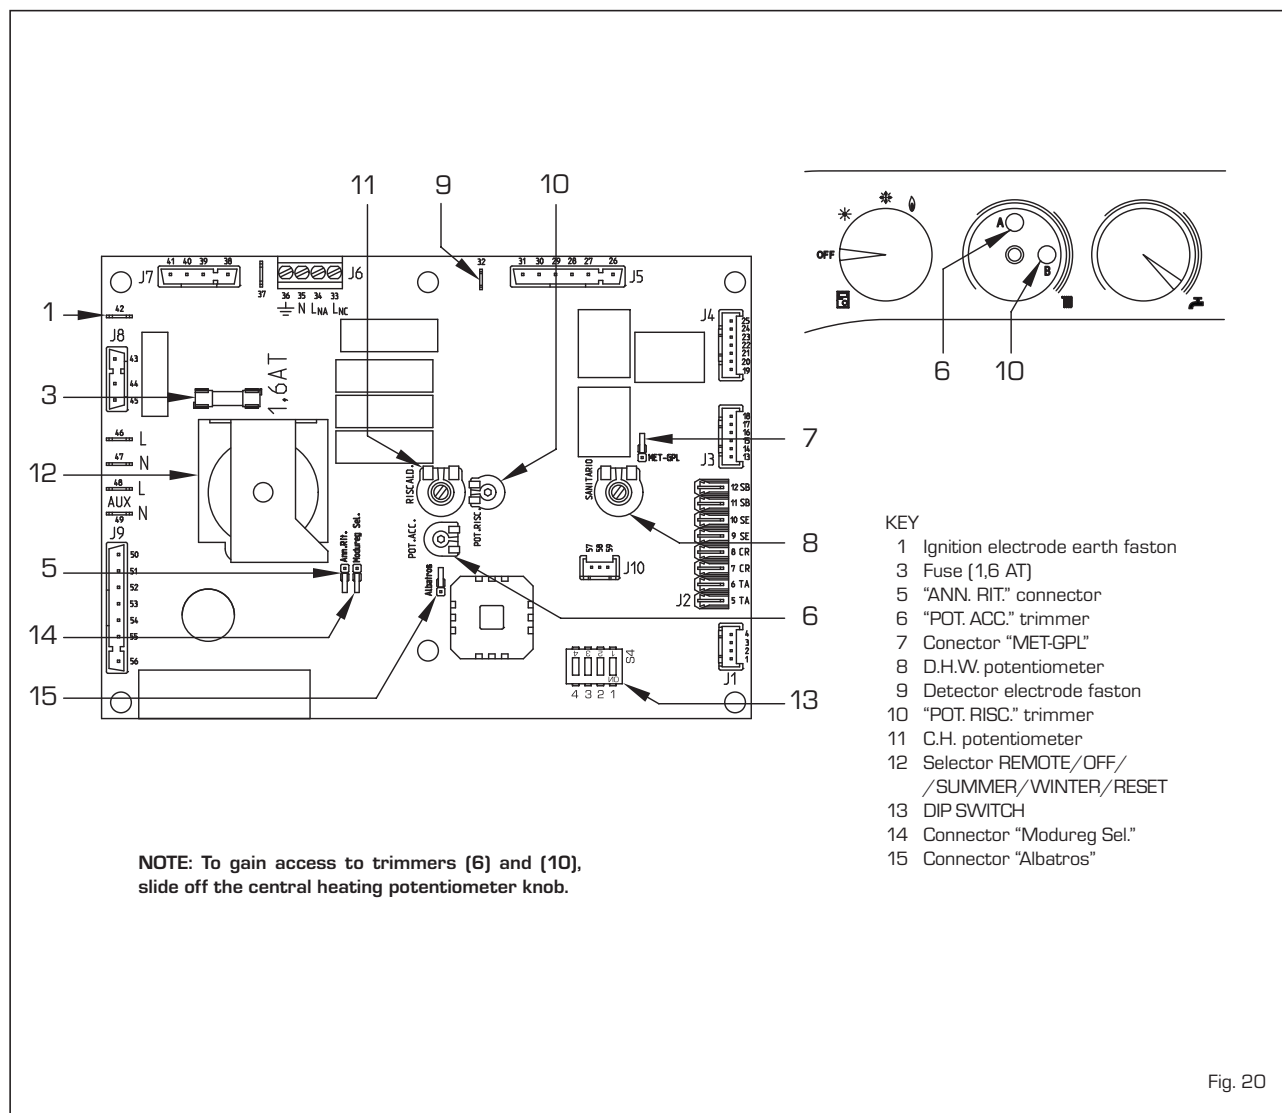

Fig. 20
- **"POT. RISC." trimmer** (10 fig. 20)
- **"POT. ACC." trimmer** (6 fig. 20)
- **"MET-GPL" connector** (7 fig. 20)
- **"ANN. RIT." connector** (5 fig. 20)
- **DIP SWITCH** (13 fig. 20)
- **"Modureg Sel." connector** (14 fig. 20)
- **"Albatros" connector** (15 fig. 20)